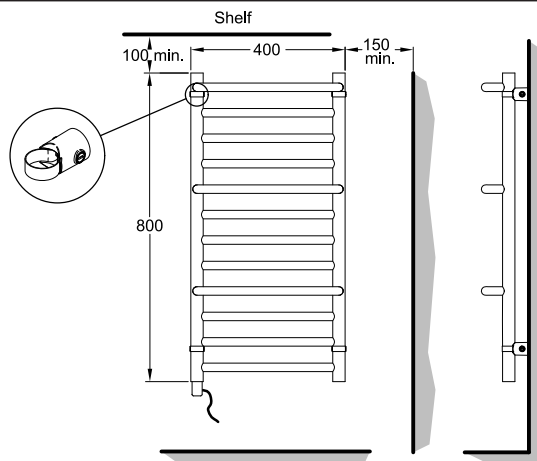
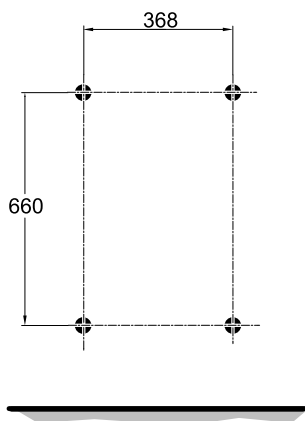
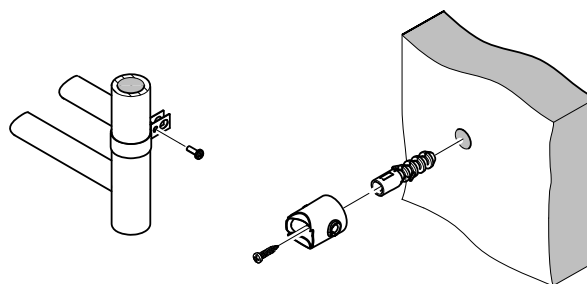

Fig. 1
Fig. 3
Fig. 4
WARNING - to ensure safe/ correct operation the rail must only be mounted vertically as shown in Fig. 1, observing the minimum clearances stated.
Mark suitable mounting hole positions for the fixing brackets (ensuring they are horizontal) - see Fig. 3, ensure to allow enough room above and below to maintain the minimum clearance stated in Fig. 1.
Drill and plug (x) the wall to suit. Fix the mounting brackets to the wall using the screws provided (y). Ensure the bracket pin holes are aligned horizontally to allow the mounting pins to be inserted through the collars - see Fig. 4.
Carefully place the four mounting collars around the towel rail uprights in the positions shown in Fig. 1 and secure in place using fixing screws (C) provided - see Fig. 4. ensure the rear of the straps are facing directly backwards.